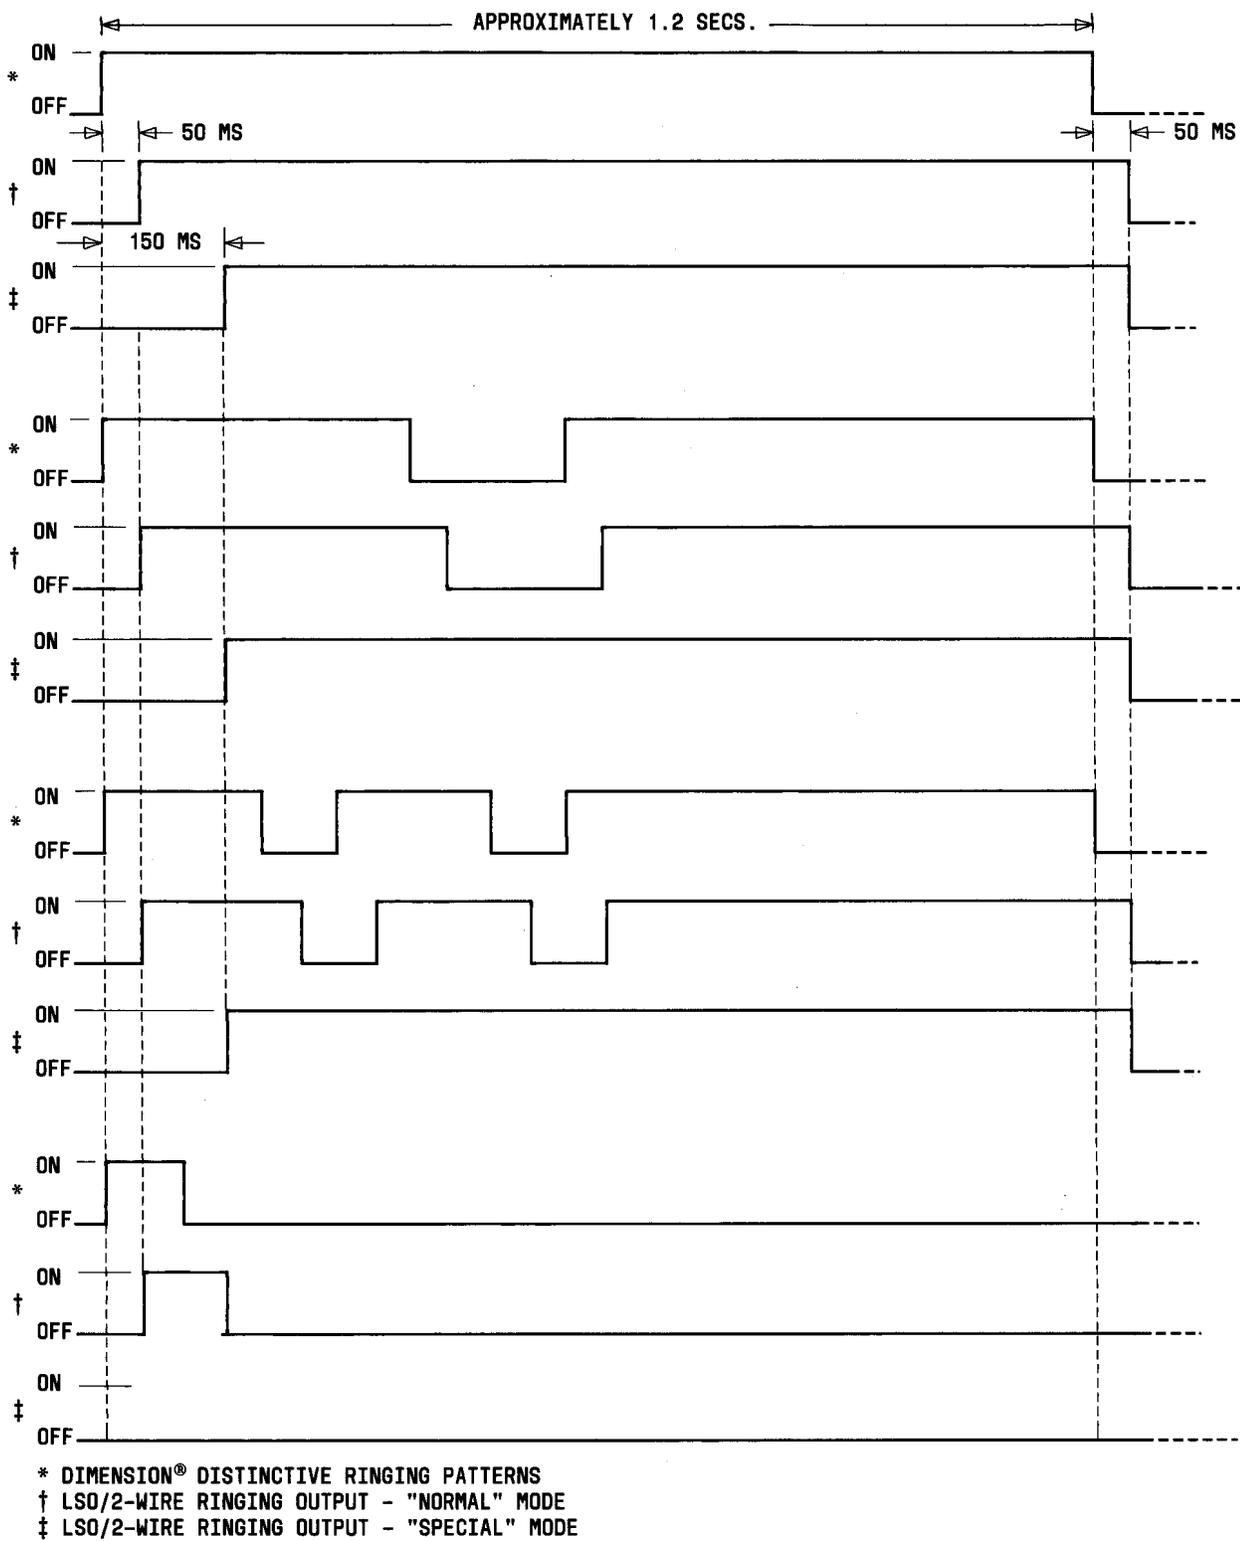

Fig. 3—Distinctive Ringing Patterns (20 Hz ON and OFF) of the DIMENSION® PBX and Corresponding Outputs of the LSO/2-Wire
3.08 When operating in the LSN mode, the unit detects ringing from the switching side and applies identical ringing patterns toward the station. All ringing patterns are accurately regenerated so that the distinctive ringing characteristic of the DIMENSION PBX is perceived at the station exactly as originated. See Fig. 3 for a diagram of the distinctive ringing patterns of the DIMENSION PBX and the ringing as regenerated by the LSO/2-Wire when set to operate in the LSN mode.
effectively removes the distinctive ringing feature of the PBX. When set to operate in this mode, the LSO/2-Wire has signaling characteristics similar to the Loop Signaling Repeaters operating Loop-Start. The short-duration ringing bursts such as those generated by the DIMENSION PBX are "stretched" so they will be reliably propagated over a complex transmission facility which contains other signaling conversions (eg, carrier, DLLs). Fig. 3 also shows the ringing outputs of the LSO/2-Wire when set to operate LSS. Note that the 100-msec ring-ping is not passed in this mode.